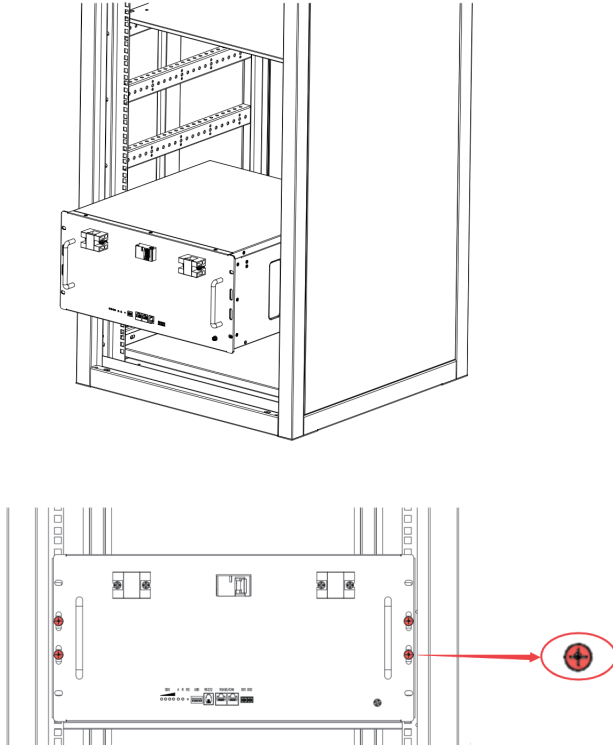

Figure 6-2 Fix the Battery on the Cabinet or Rack
- Put the battery into cabinet or rack. As shown in Figure 6-2.